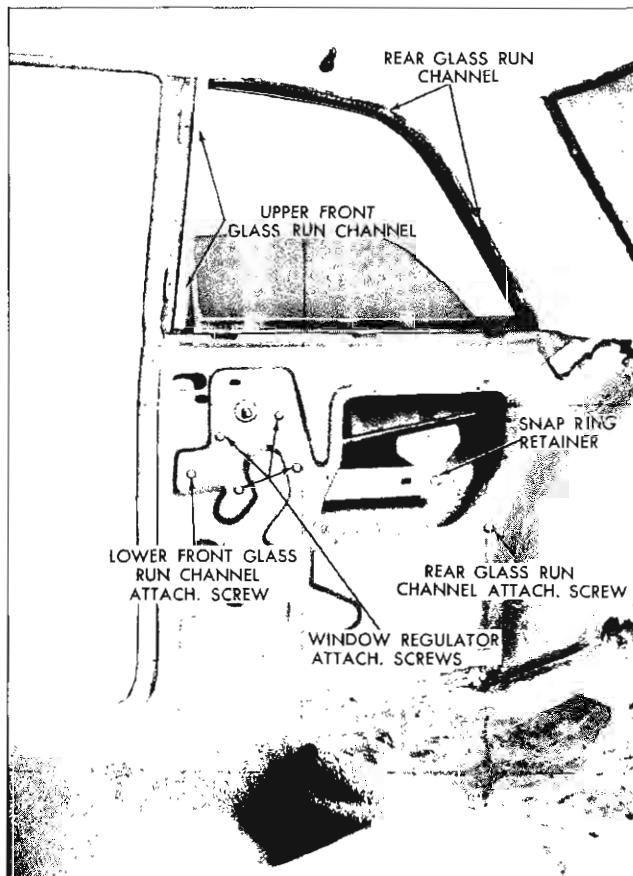

Fig. 4-5 Rear Quarter Hardware Manual - 11 Style
2. Remove snap ring retainer securing regulator lift arm to pivot pin on window lower sash channel. (Fig. 4-5)
- a. Operate the window to the "full-up" position and loosen the window regulator attaching screws (Fig. 4-5).
a. Loosen rear glass run channel attaching screw (Fig. 4-5).
2. Remove snap ring retainer securing regulator lift arm to pivot pin on window lower sash channel (Fig. 4-5).
4. Remove regulator attaching screws (Fig. 4-5) and remove regulator through access hole.
2. Remove lower front glass run channel attaching screw (Fig. 4-5) and remove run channel through access hole.
2. Remove rear glass run channel attaching screw (Fig. 4-5).
2. Disengage window from regulator lift arm by removing snap ring retainer (Fig. 4-5)